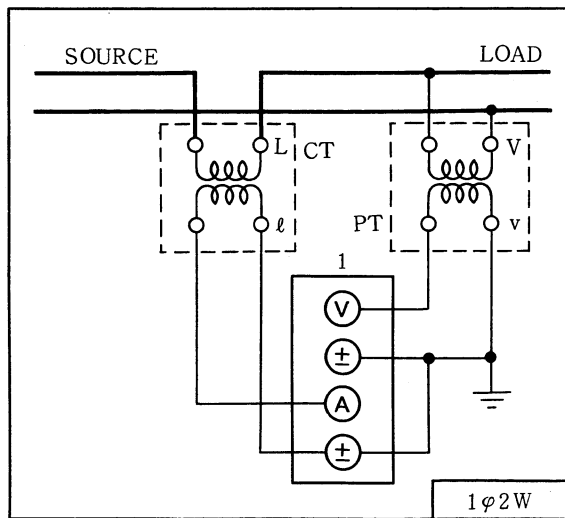

Figure 2-8.
When it is desired to measure a greater voltage or current, connect an external potential transformer (PT) and current transformer (CT) as shown in Figure 2-8.